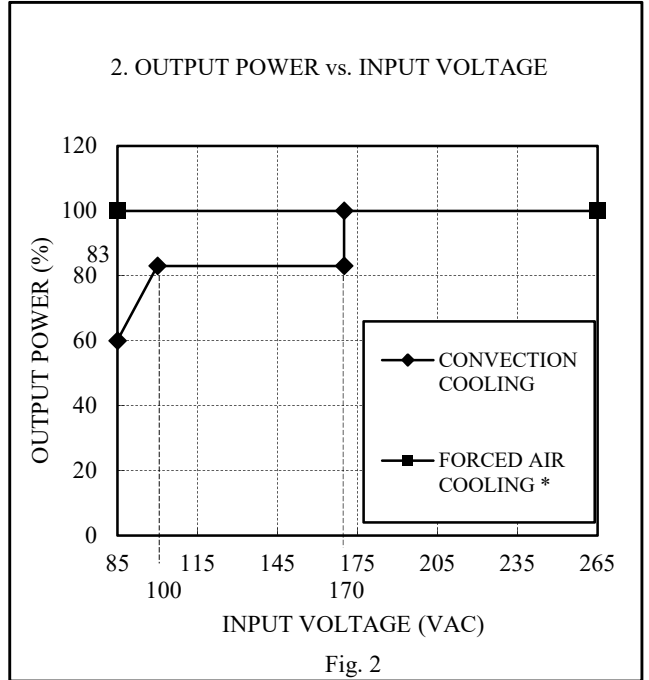

Fig. 2
2. Derating is necessary to output power in case of input voltage less than 170VAC. (Fig.2)